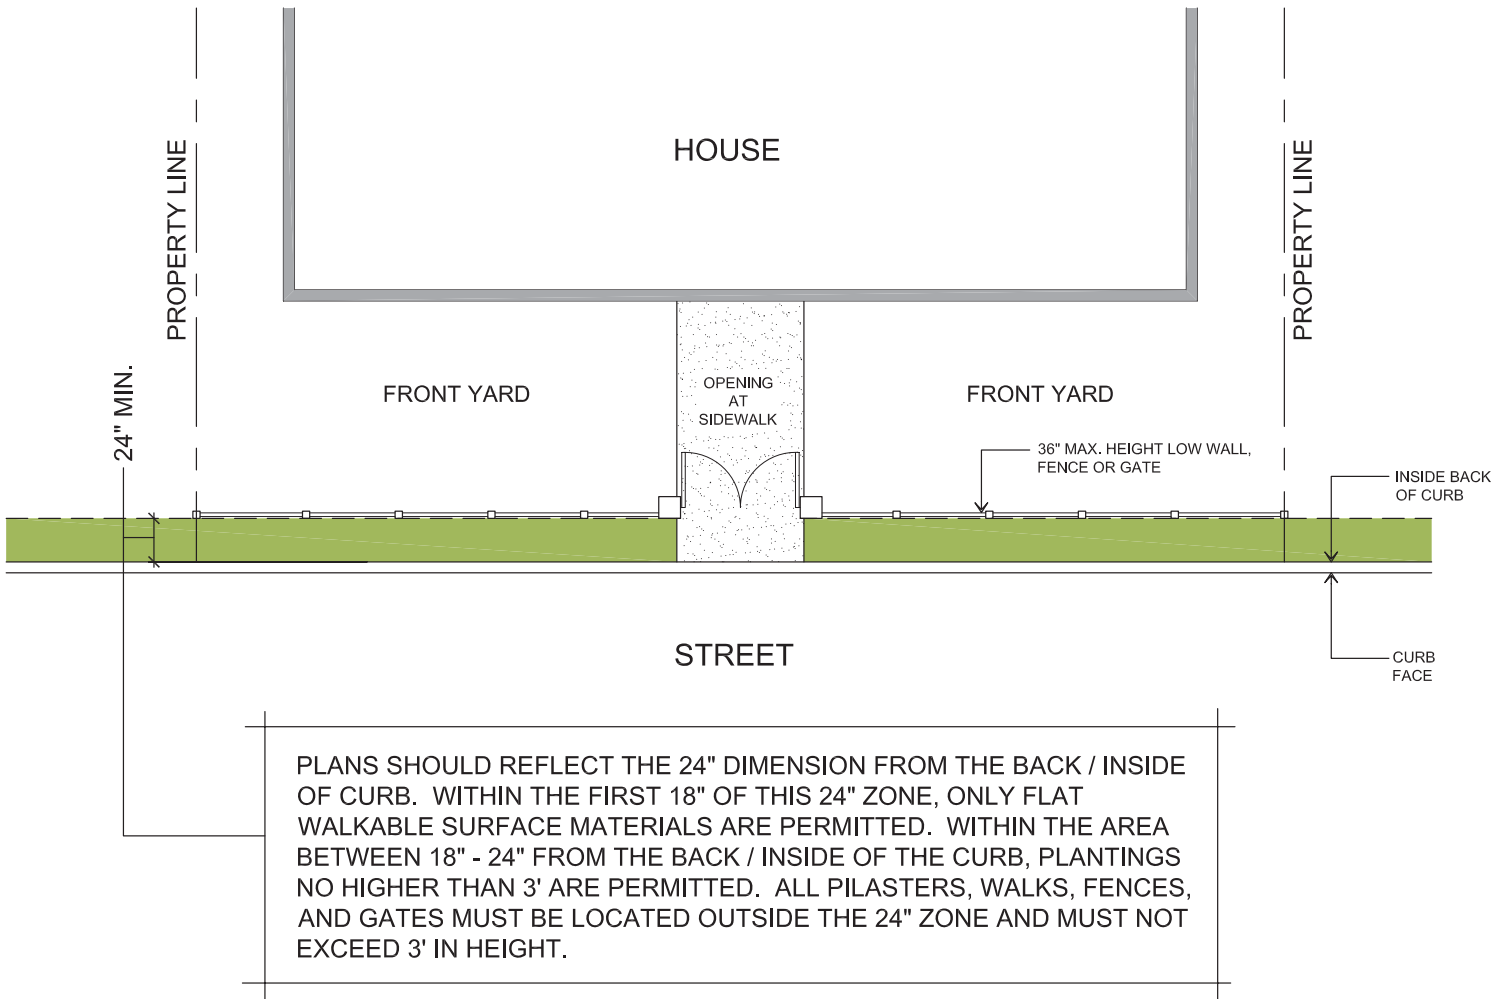

Figure 1
### 24" Front & Street Side Yard Setback Zone (see Fig. 1)
C.2.4 FIGURE 1 - 24" LANDSCAPE SETBACK ZONE
Third Story Applied to Figure 1